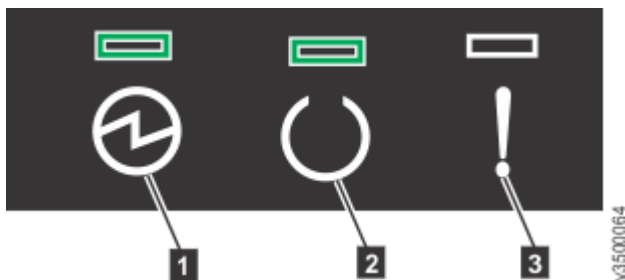

Figure 84. Node canister LEDs
5. From the rear of the control enclosure, check the LEDs on each node canister. (See Figure 84 on page 94.)